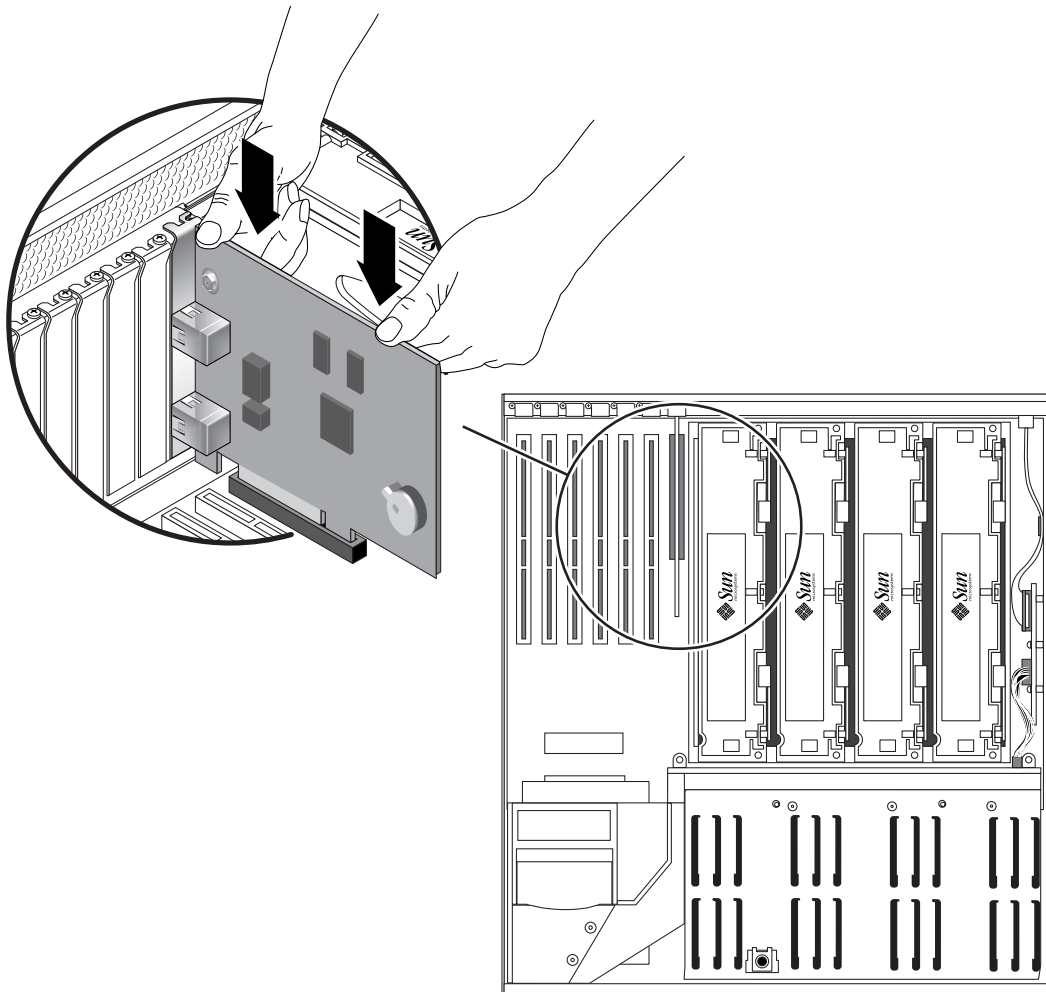

FIGURE 4-30 Inserting the ALOM System Controller Card
2. Insert the ALOM system controller card into its slot on the motherboard (FIGURE 4-30).